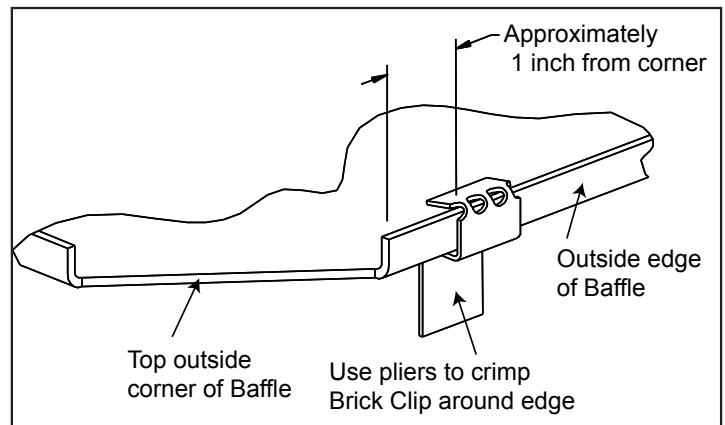
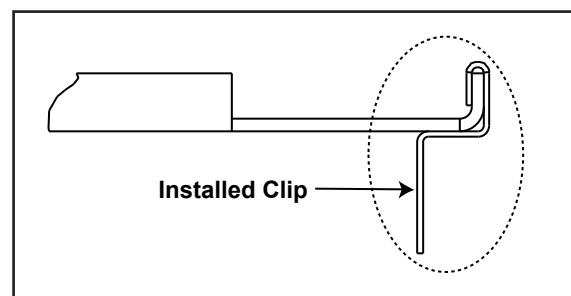

Figure 20.4
Figure 20.5
3. Using pliers, bend the brick clip slightly past 90° in the direction shown in **Figure 20.4**.
4. Position the brick clip as shown in **Figure 20.4** and use pliers to crimp around the outside edge of the baffle as shown in **Figure 20.5**.
- Note:** **Figure 20.5** shows the finished shape of the brick clip, after being bent around the outside edge of the baffle.